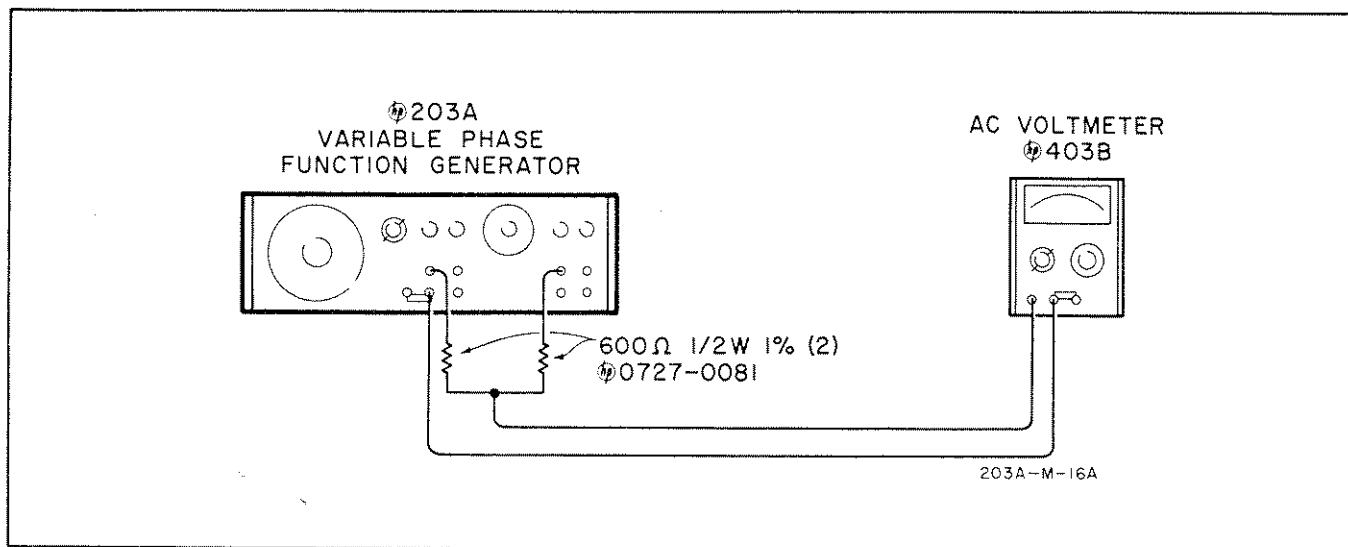

Figure 5-6. Phase Lag Dial Adjustment
- a. Connect Model 203A as shown in figure 5-6.